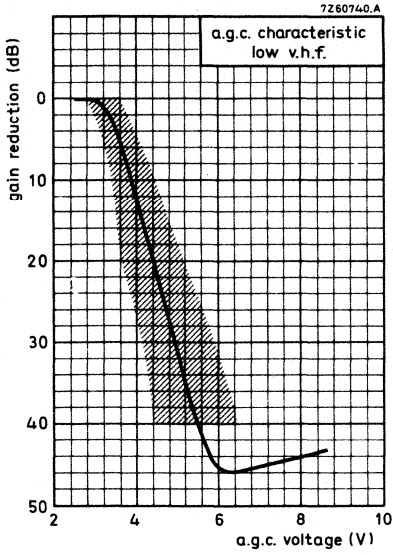

Fig. 5
A. G. C. voltage (Figs. 5, 6 and 7)